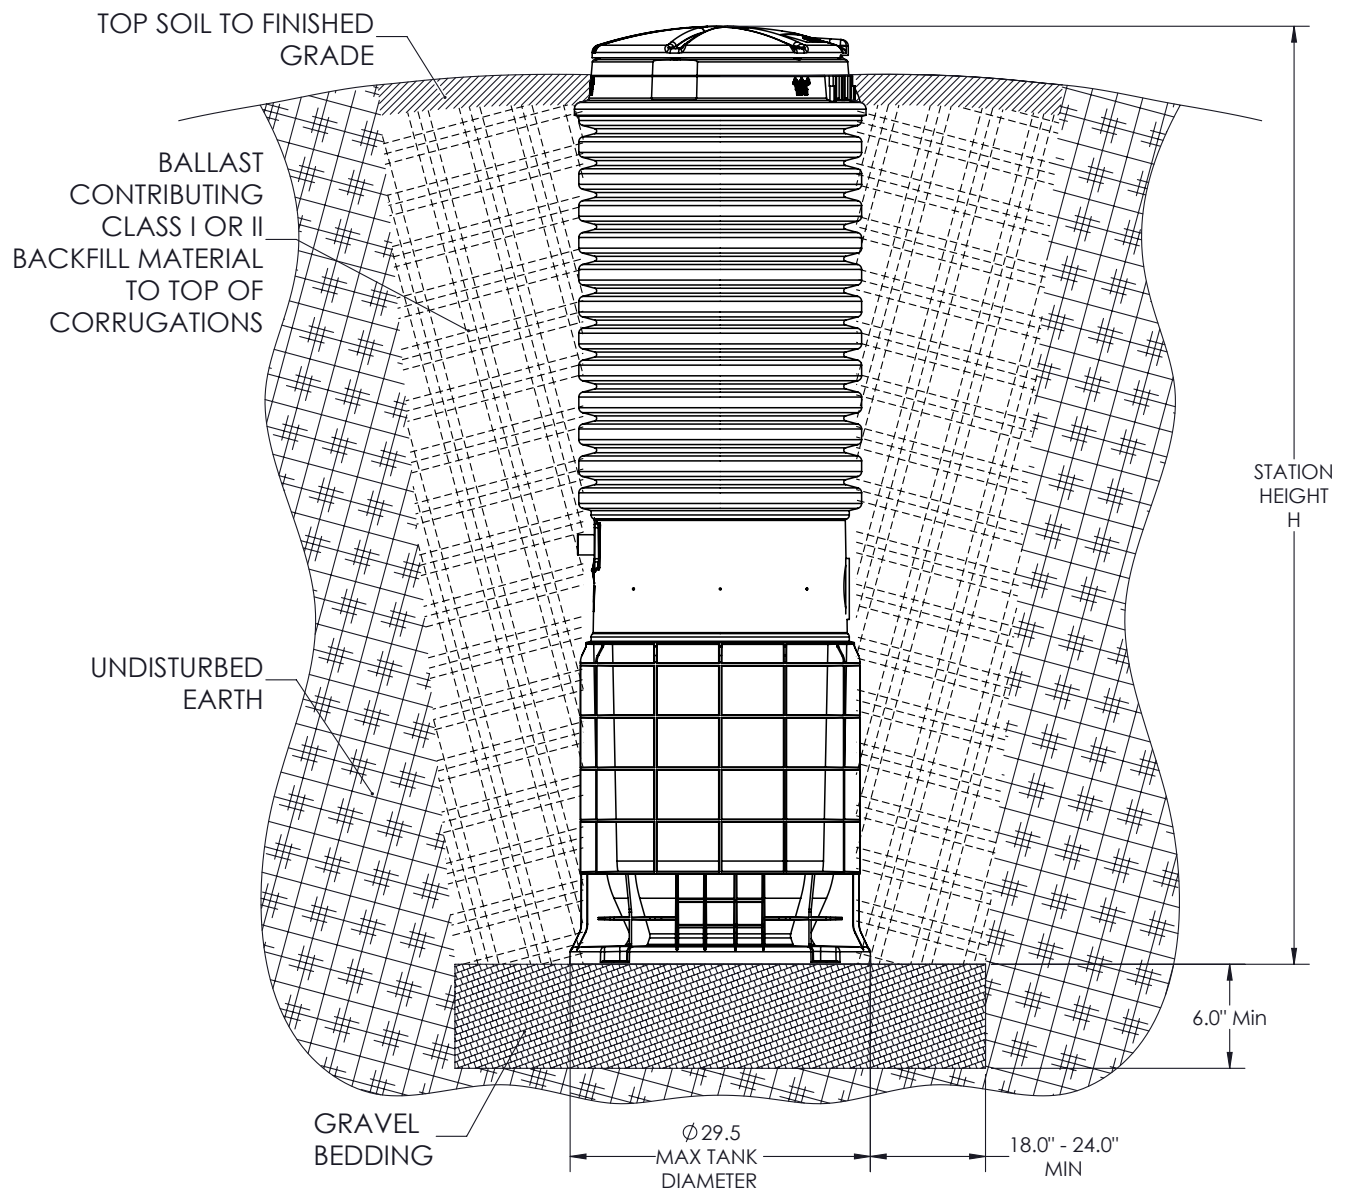

Figure 6
The tank is supplied with a standard 4-inch PVC DWV (4.5 inches inside dia.) inlet for connecting the incoming sewer drain. Other inlet types and sizes are optional (caution 4" DR-35 pipe is of smaller diameter and won't create a watertight joint with the standard grommet). Confirm that you have the correct inlet before continuing with installation. Do not drop, roll or lay the tank on its side. Doing so may damage the unit and void the warranty. Excavate a hole to a depth so the removable cover extends above the finished grade line; the grade should slope away from the unit. The diameter of the hole must be large enough to allow for appropriate bedding and backfill installation (Fig. 6). Place the unit on a 6-inch bed of gravel, naturally rounded aggregate, clean and free-flowing, with particle size not less than 1/8 inch or more than 3/4 inch in diameter. WH101 tanks that feature the Universal Wet Well do not require additional concrete anchor to prevent flotation in the presence of high ground water. WH101 tanks with a corrugated bottom section require alternative installation instructions that detail a concrete anchor for ballast. Contact your local E/One distributor for assistance.
**5. BACKFILL REQUIREMENTS (Fig. 6): Proper backfill is essential** to the long term reliability of any underground structure. Several methods of backfill are available to produce favorable results with different native soil conditions.
Unique to the E/One models DH071 and WH101 incorporating an injection molded Universal Wet Well, the bottom flange of the tank is designed to capture a suitable column of backfilled soil to resist the upward buoyant force. The weight of the backfill soil along with the soil shear resistance of the soil can retain the DH071 and WH101 tank in the ground – when properly installed in suitable soil conditions. See figure 6 for proper tank burial.